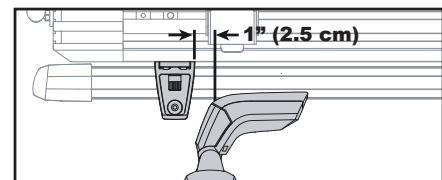

fig. 2
- Do not position the mounting hardware more than 1" outside of the Tower (see figure 2).